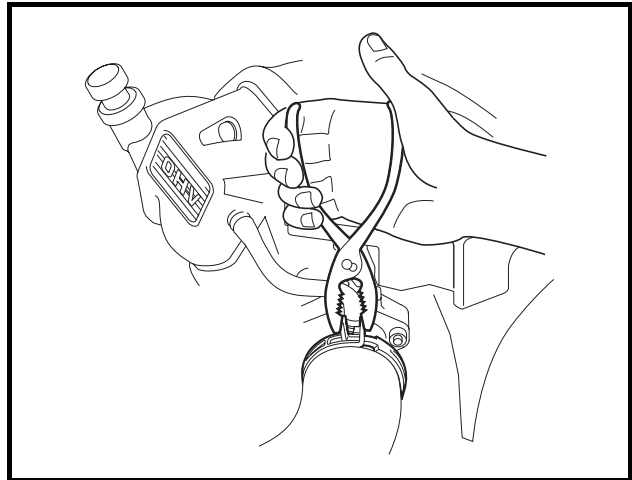

Figure 16-53 Air Intake Hose
28. Connect air intake hose to carburetor and secure hose clamp (**Figure 16-53, Page 16-21**).